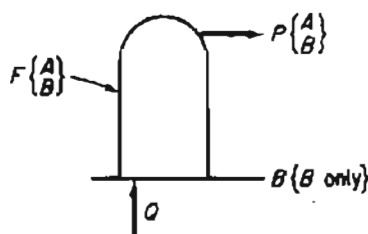

Figure SAT30.1P3
3. Determine the number of degrees of freedom for a still (see Figure SAT30.1P3).